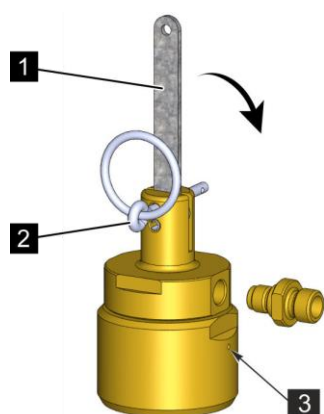

Fig. 30: Activating
3. Pull the safety pin (Fig. 30/2) out of the pneumatic/manual release device on the "pilot cylinder" extinguishing agent container.
4. *i* When the release lever is operated, the upper valve chamber in the valve is vented. Pressurized gas flows through it through a pressure relief hole in the cap nut of the release device (Fig. 30/3).
5. Press the release lever (Fig. 30/1) of the pneumatic/manual release device as far as it will go clockwise or counterclockwise (Fig. 30/arrow) and hold it down for 5 s.